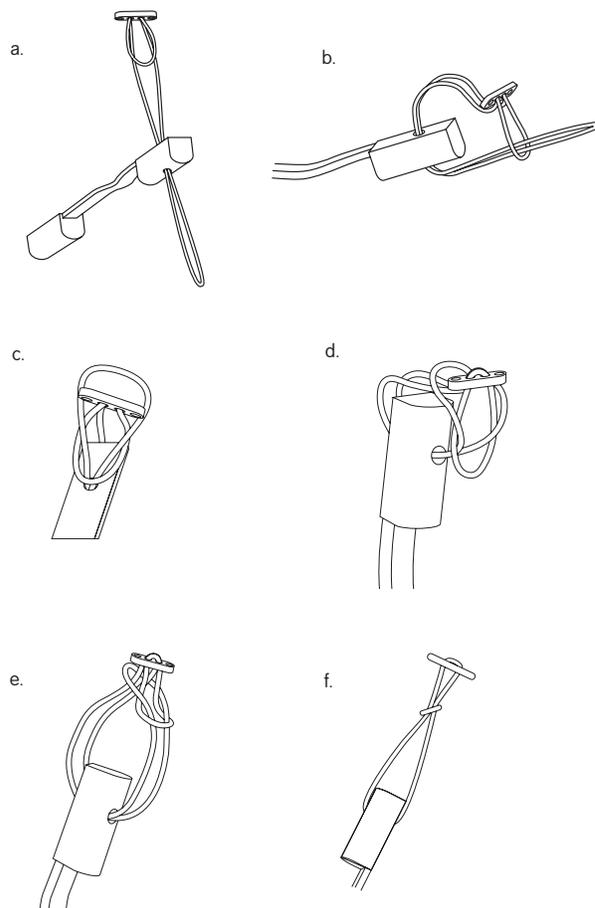

Figure 14: Attaching the ENDOBUTTON CL BTB System
Pass the Continuous Loop (CL) through the graft and attach it to the ENDOBUTTON device as shown in Figure 14.
1. Feed the long CL loop through the prepared hole of the femoral bone block (respectively through the desired position at the tendon-bone junction). The short CL loop should face toward the bone block (Figure 14-a).
2. Feed the long CL loop through the short CL loop (Figure 14-b).
3. Slip the long CL loop over the ENDOBUTTON device (Figures 14-c and d).
4. Tighten the construct (Figures 14-e and f).